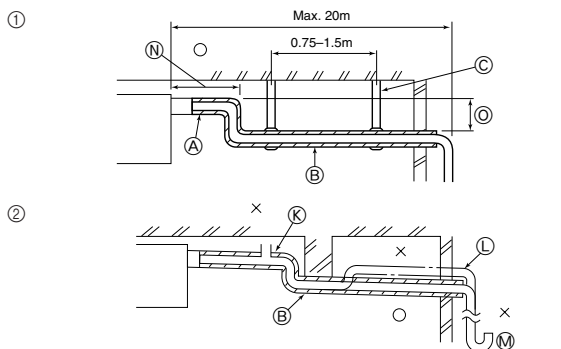

Fig. 4-1
- Use attached drain hose to change the pipe extraction direction. (Fig. 4-1)
- ① Correct piping
- ② Wrong piping